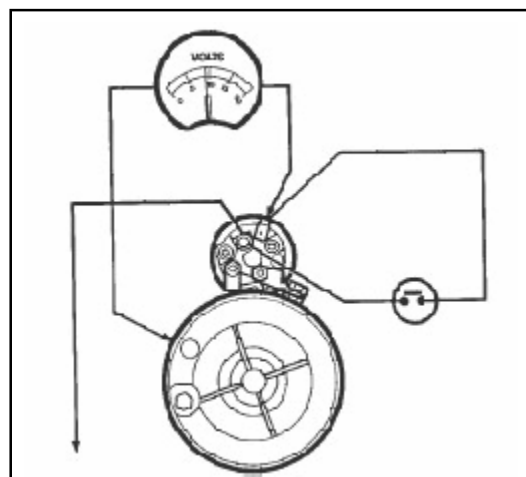

Fig. 4
Checking the voltage to the solenoid (Fig. 4)
To check the circuit for high resistance (poor connections) connect the voltmeter between the solenoid operating terminal and ground (commutator end bracket) as shown in Fig. 4. When the switch contacts are closed, the reading on the voltmeter should be slightly less than the reading in the first part of test 1. A satisfactory reading indicates a negligible voltage drop in the circuit and consequently the fault may be in the solenoid.
1. Check the belt tension at the centre of the longest span. Allow 0.393 inch (10 mm) deflection ,when moderate finger pressure is applied to the longest run at the belt, see 'A' Fig. 4